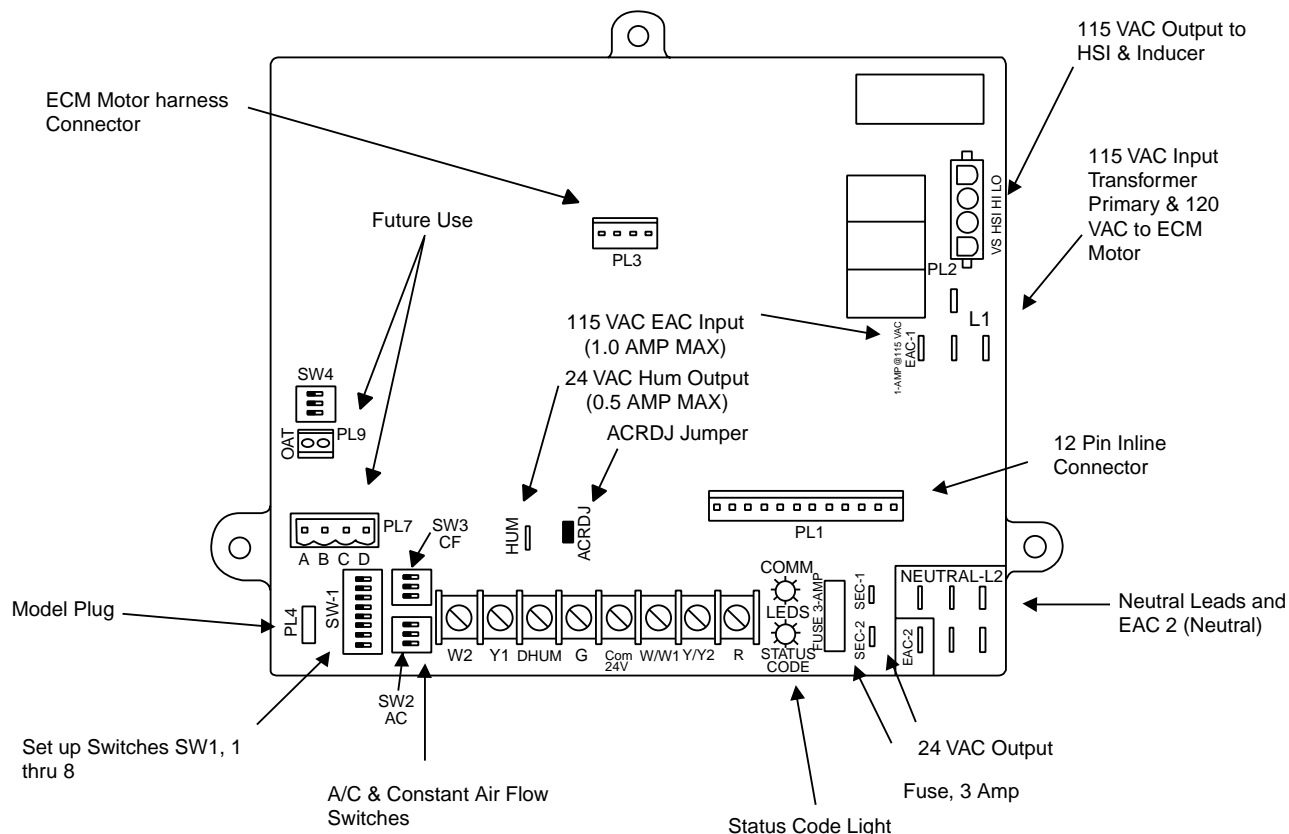

Fig. 32—Variable Speed Furnace Control-ECM Blower Motor
Make field 24-v connections at the 24-v terminal strip. (See Fig. 32.) Connect terminal Y/Y2 as shown in Fig. 22 or Fig. 24-31 for proper cooling operation. Use only AWG No. 18, color-coded, copper thermostat wire.
Connect an accessory Electronic Air Cleaner (if used) using 1/4-in female quick connect terminals to the two male 1/4-in quick-connect terminals on the control board marked EAC-1 and EAC-2. The terminals are rated for 115VAC, 1.0 amps maximum and are energized during blower motor operation. (See Fig. 32.)
Connect an accessory 24 VAC, 0.5 amp maximum humidifier (if used) to the 1/4-in male quick-connect HUM terminal and Com-24V screw terminal on the control board thermostat strip. The HUM terminal is energized when blower is energized in heating. (See Fig. 32.)
- 7. Do not vent this appliance into an unlined masonry chimney. Refer to Chimney Inspection Chart, Fig. 32.